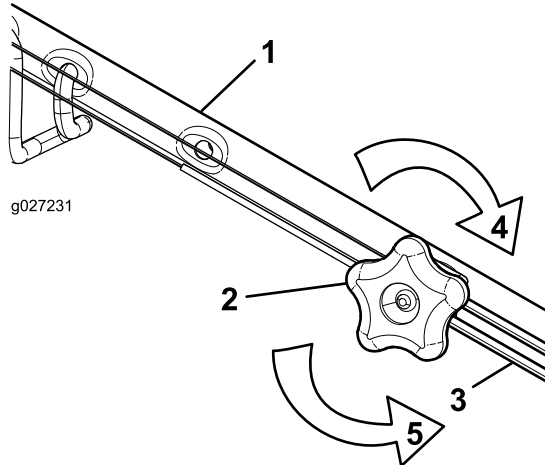

Figure 38
1. Turn the adjustment knob counterclockwise to loosen the cable adjustment (Figure 38).
2. Adjust the tension on the cable (Figure 38) by pulling it back or pushing it forward and holding that position.